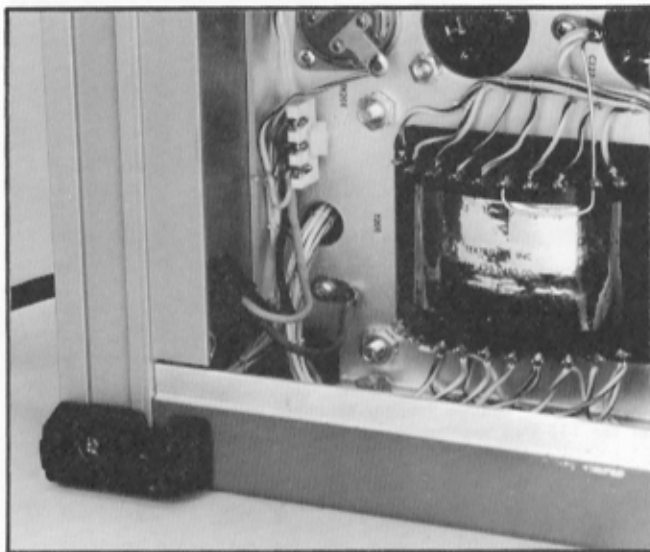

Fig. 2-2. Bottom view of the Type 230 showing the location of the ground lug and input connections required for changing the power cord.
- b. Unsolder the ground wire (green) from the ground lug (see Fig. 2-2).
f. Install the power cord through the hole in the rear panel and solder the leads to the same terminals from which the previous cord was removed; (see Fig. 2-2).